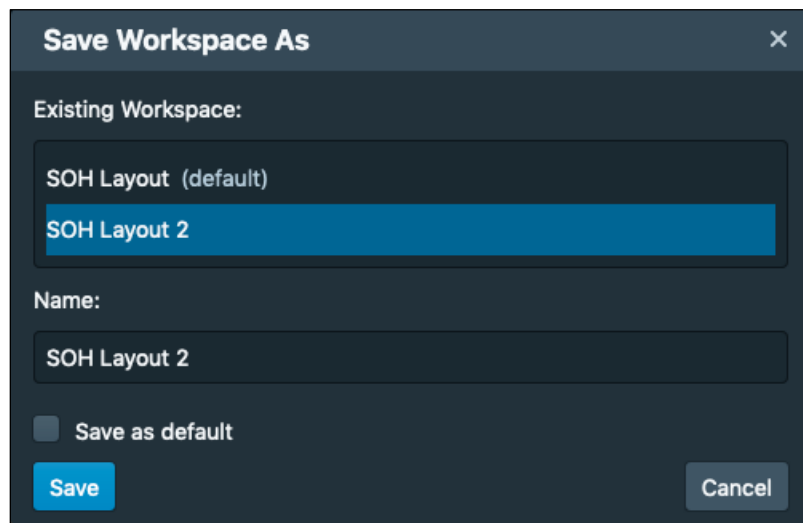

Figure 6. Save Workspace as Menu Options.
- 4) Save Workspace As –Saves a preferred UI layout (see Figure 6).